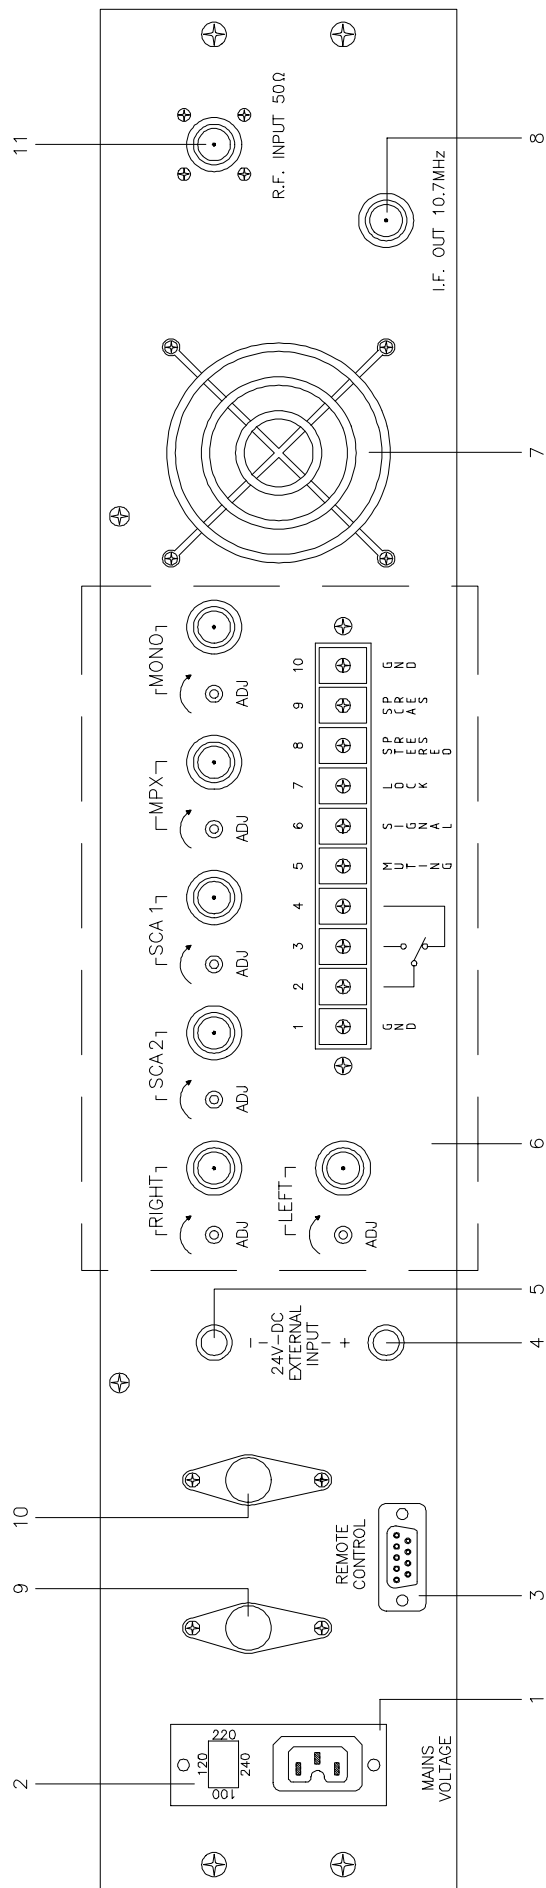

FIG. 2
REAR PANEL VIEW DESCRIPTION (FIG.2)
First of all select the correct supply voltage using the selector situated on the rear panel; use a screwdriver to raise the cover (2 Fig.2) on which are the various voltages, rotate it until the arrow points to the correct voltage and re-insert it.
- 2) Ensure that the antenna is correctly fitted to the R.F. input (11 Fig.2) situated on the receiver's rear panel.
- 4) Connect power to the unit via the VDE socket (1 Fig.2).